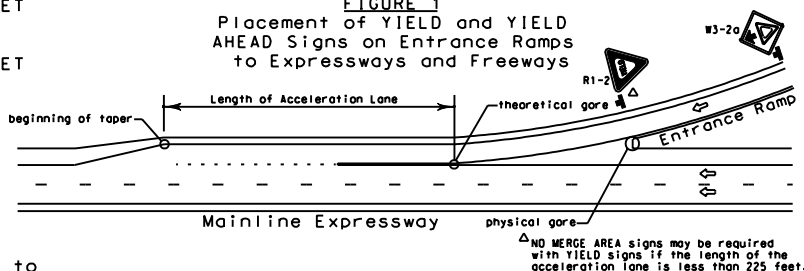

FIGURE 2
Length of acceleration lane (from Figure 2) (C) FT